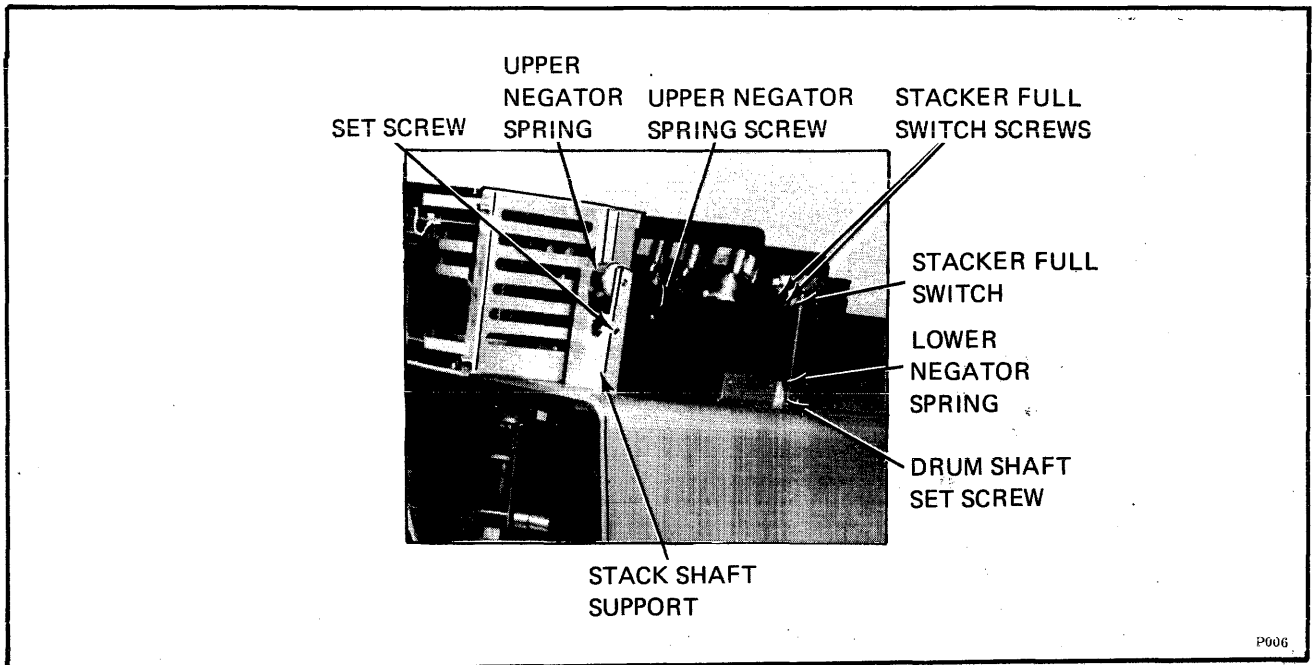

Figure 6-10. Stacker Full Switch Adjustment
- c. Loosen two screws retaining stacker full switch bracket, Figure 6-10.
- c. Loosen the two set screws on the stack shaft support (Figure 6-10).
- d. Adjust the stack shaft assembly for a 0.125 to 0.0250 inch clearance between the stack follower and front casting (Figure 6-10).